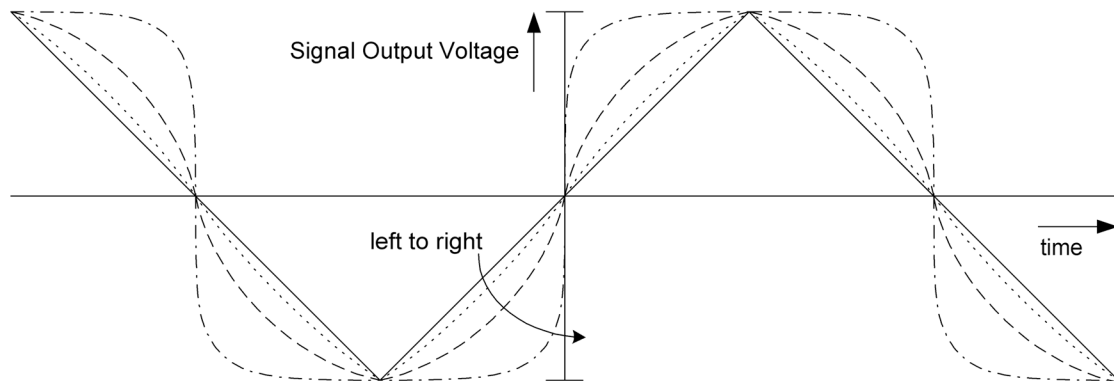

Fig.8.4.2 Signal distortion on a triangle waveform
Fig.8.4.2 shows as an example how a triangle waveform is treated with increasing distortion. The 'Signal Output Voltage' is shown for several positions of the **[distortion]**-knob (5).